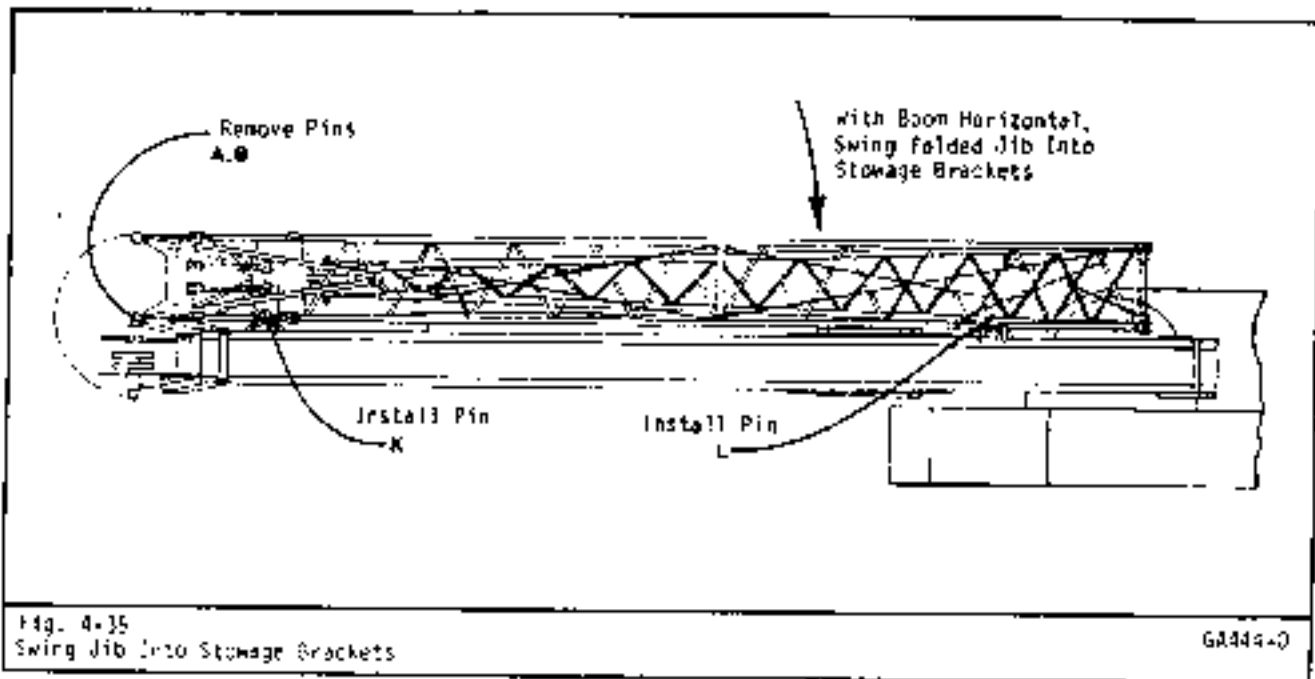

Fig. 4-35
Step 14: Swing the folded jib around to stow on the right side of the boom. Install pins at "K" and "L" to secure the folded jib in the storage brackets. Refer to Fig. 4-35 & 36.